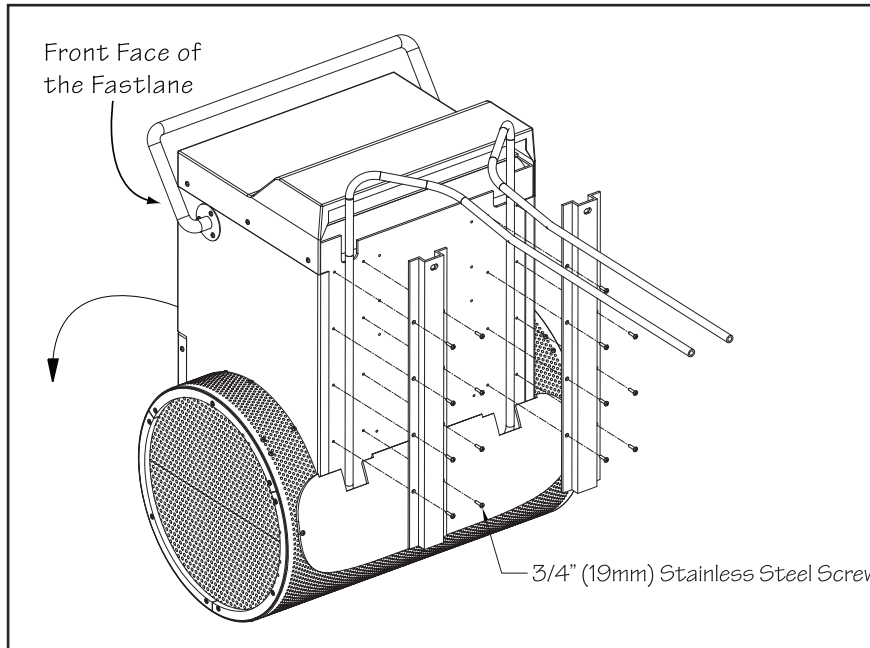

Fig. 6.5
- 6.7 **Carefully lay the Fastlane onto its front face.** Run the hydraulic hoses up the back of the upper housing. The two hat channels will be placed over the hydraulic hoses. Make sure that the mounting hole in the end of the hat channel is facing up and that the bottom of the hat channel has been inserted into the notch in the cylindrical base. Use the provided 3/4" (19mm) stainless steel screws to attach the hat channels to the upper housing. There will be eight screws per hat channel (Fig 6.5).